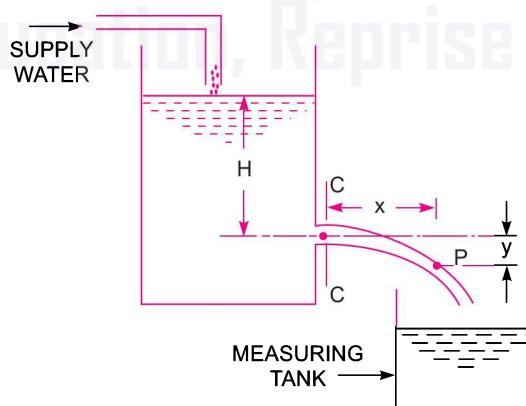

Fig. 7.2 Value of  $C_d$ .
**7.5.1 Determination of Co-efficient of Discharge ( $C_d$ ).** The water is allowed to flow through an orifice fitted to a tank under a constant head,  $H$  as shown in Fig. 7.2. The water is collected in a measuring tank for a known time,  $t$ . The height of water in the measuring tank is noted down. Then actual discharge through orifice,
**7.5.2 Determination of Co-efficient of Velocity ( $C_v$ ).** Let  $C-C$  represents the vena-contracta of a jet of water coming out from an orifice under constant head  $H$  as shown in Fig. 7.2. Consider a liquid particle which is at vena-contracta at any time and takes the position at  $P$  along the jet in time ' $t$ '.